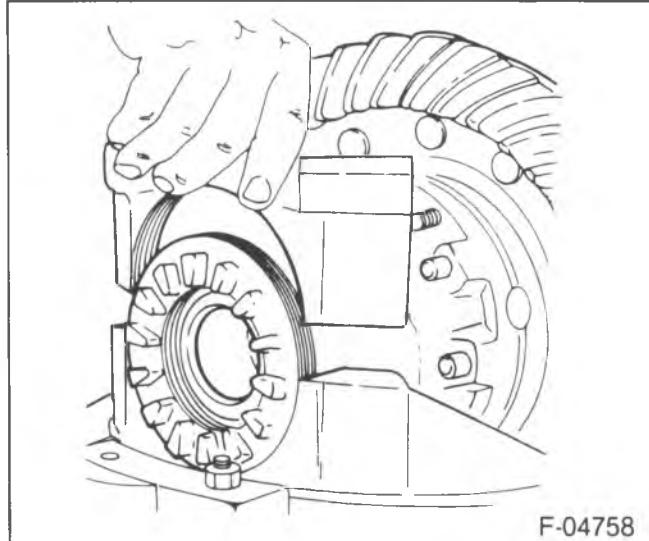

Figure 24—Installing the Bearing Cup
- 1. Bearing cups (33) onto the bearings.
- 2. Differential assembly (36) to the carrier.
- 3. Bearing adjusting nuts (32).
- 4. Bearing caps (25) (figure 24).
- 5. Cap bolts (23).